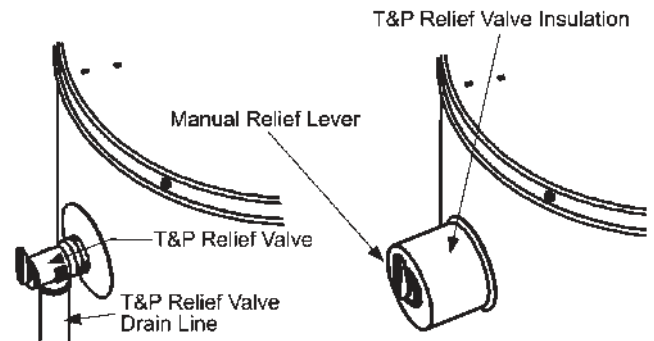

FIGURE 11.
1. Locate the temperature and pressure relief valve on the water heater (also known as a T&P relief valve). See Figure 11.
3. Spread the slit open and fit the insulation over the T&P relief valve. See Figure 11. Apply gentle pressure to the insulation to ensure that it is fully seated on the T&P Relief Valve. Once seated, secure the insulation with duct tape, electrical tape, or equivalent. **IMPORTANT:** The insulation and tape must not block the discharge opening or hinder access to the manual relief lever (Figure 11). Ensure a discharge pipe is installed into the T&P valve discharge opening per the instructions in this manual.